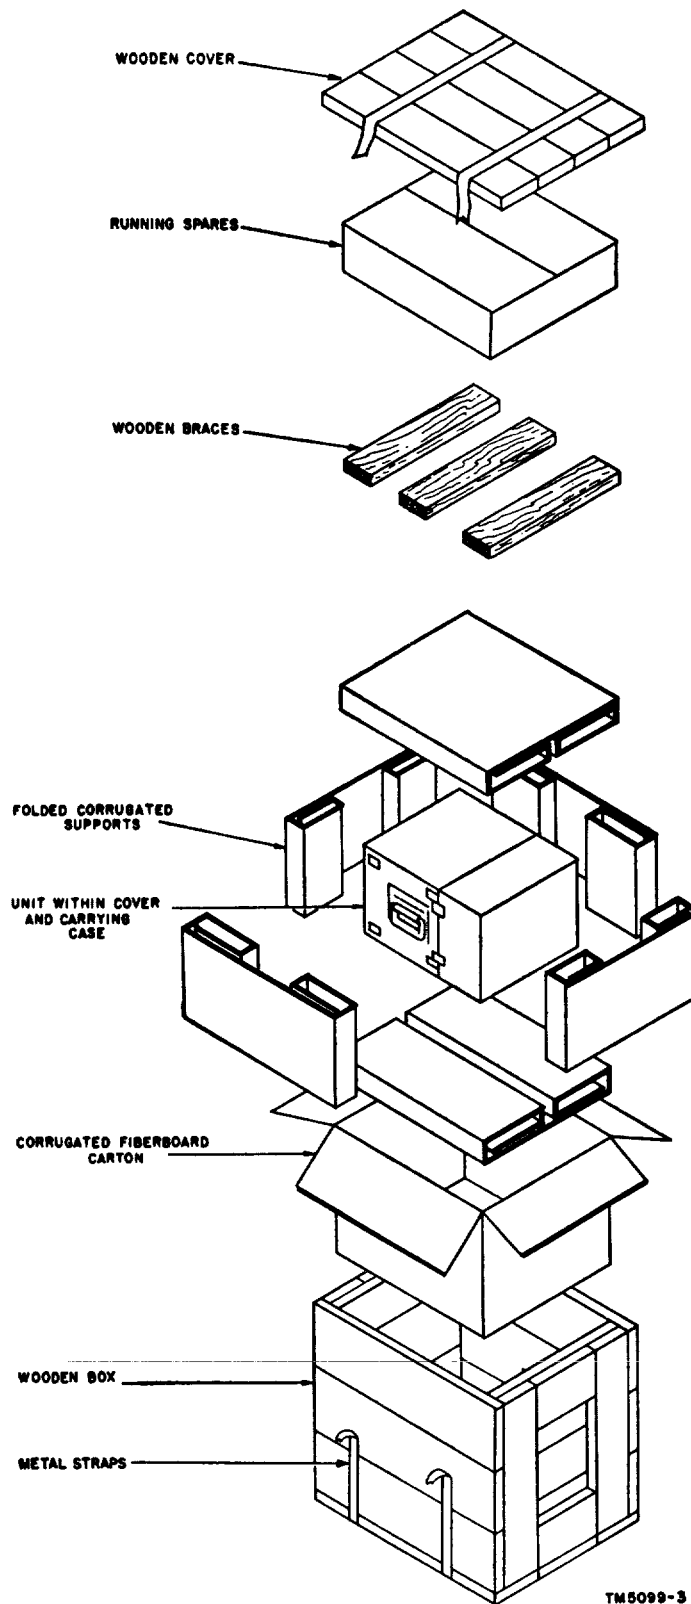

Figure 2. Spectrum Analyzer AN/UPM-58, packing and packaging diagram.
Following is a list of running spares for the spectrum analyzer. Except for two fuses stored in the front panel spare fuse receptacles, these items are stored in a separate corrugated carton packed with the equipment (fig. 2).
a. *Packaging Data.* When packed for shipment, the components of Spectrum Analyzer AN/UPM-58 are placed in moisture-vaporproof cartons and packed in a wooden box. A typical component packed for export shipment is shown in figure 2. When packed for export shipment, the shipping container is 22 X 20 1/4 X 14 inches. It displaces approximately 3.6 cubic feet and weighs 105 pounds.
Perform all the steps outlined below when unpacking equipment from wooden boxes (fig. 2).